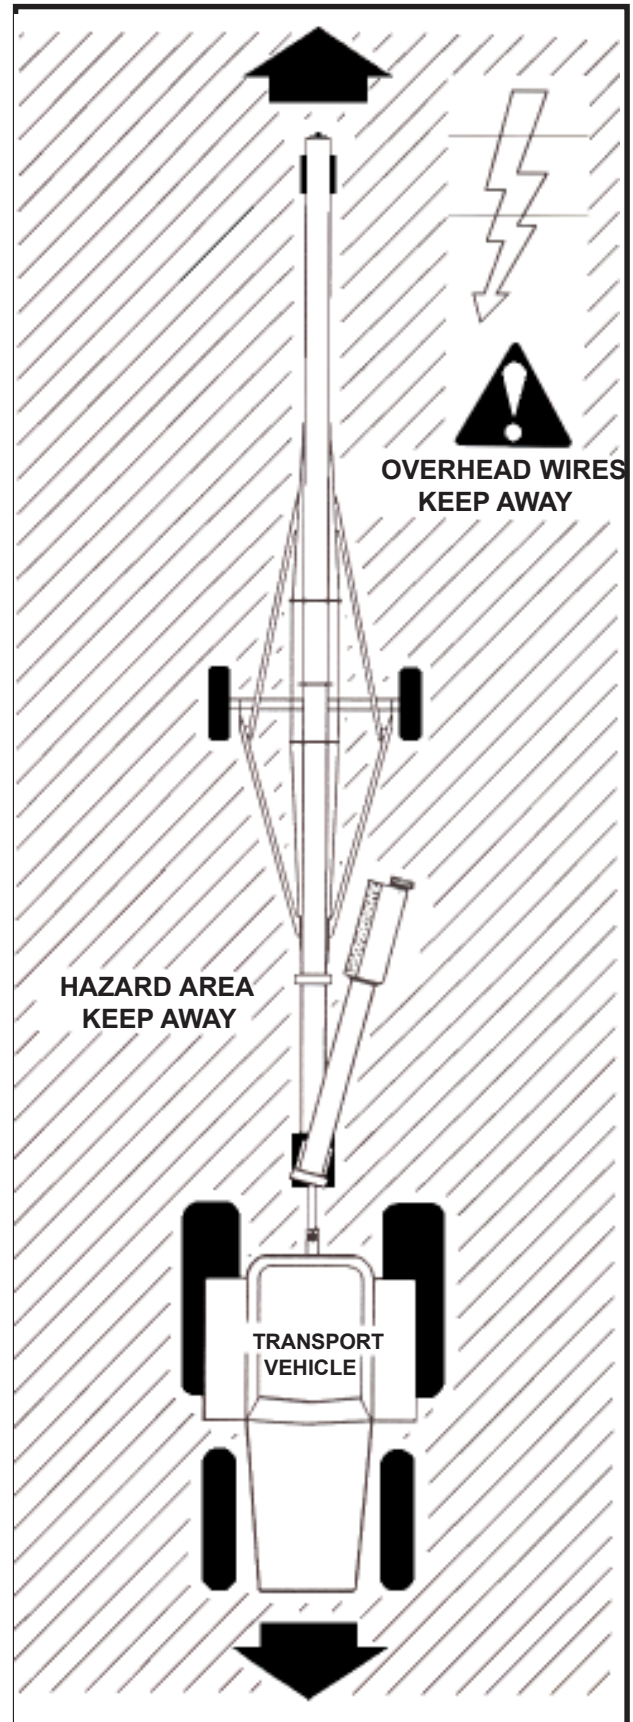

Figure No. 2
- Before moving auger, make sure the area around the auger is clear of obstructions and/or unauthorized personnel. (See **Figure No. 2**).